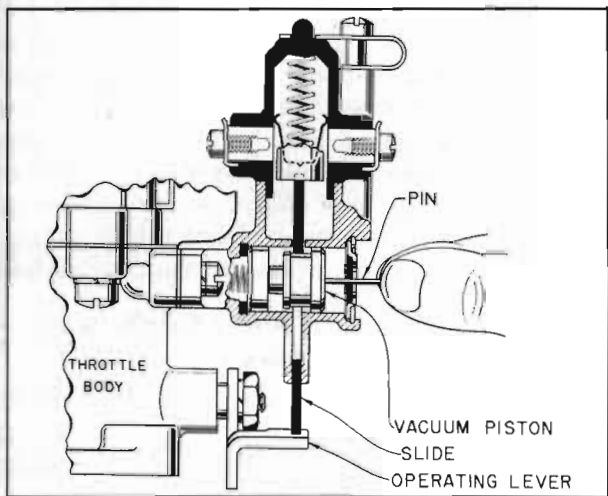

Figure 10-39—Pushing Vacuum Piston to Inner Position
2. With engine not running, insert a pin through center of felt filter and screen to operate the vacuum piston. **DO NOT REMOVE FILTER AND SCREEN.** See figure 10-39.
opening throttle. This will allow slide to drop into the shallow groove in the piston and will lock it in the inner position and prevent slide from dropping far enough to complete contact. See figure 10-39. Hold throttle open to prevent release of piston until completion of Steps 4 and 5. Remove pin.